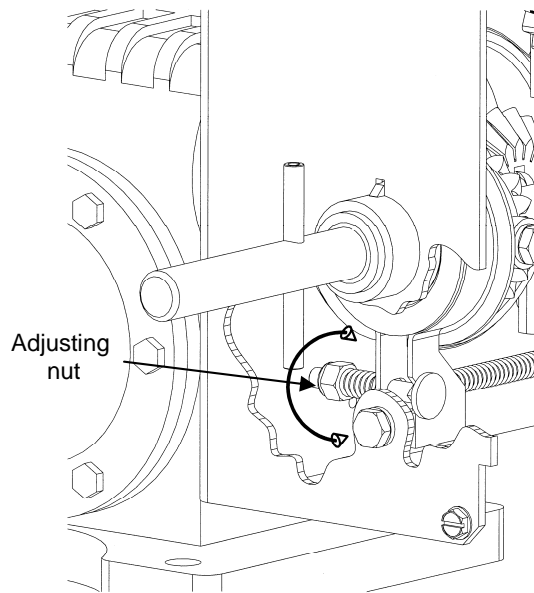

Figure 17 Manual operation system adjustment
3. The automatic hoist engagement system is adjusted in the factory. It may require adjustment in the field. Adjustment is necessary if no door movement occurs after two feet of pulled hand chain. Turn the adjusting nut clockwise (see figure 17) by $\frac{1}{4}$ turn until the hoist engages after pulling one foot of chain. If the nut is too tight, the manual torque on the chain will be too heavy.